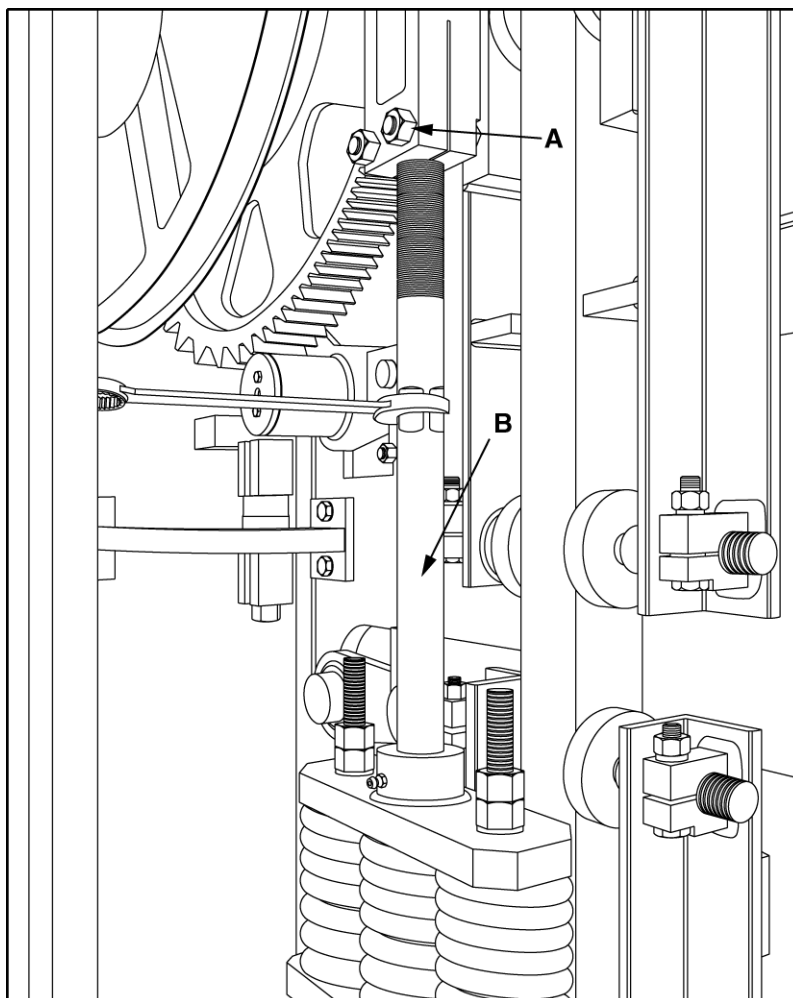

Figure 5.18 PALLET RECEIVER LINK ROD (LEFT SIDE SHOWN)
- 5.5.4 If the dimension on each side is not approximately 5/8" [16mm], adjustment must be made using the pallet receiver link rods (B) (see figure 5.18, next page), after loosening nut (A) (see figure 5.18).
5.5.8 If the dimension on each side is not 5/8" [16mm], adjustment must be made using the pallet receiver link rods (B) (see figure 5.18), after loosening nut (A) (see figure 5.18).
5.5.11 Recheck level of mold and adjust following steps 5.5.3 to 5.5.5 until mold is perfectly levelled. Tighten nut (A) (see figure 5.18).